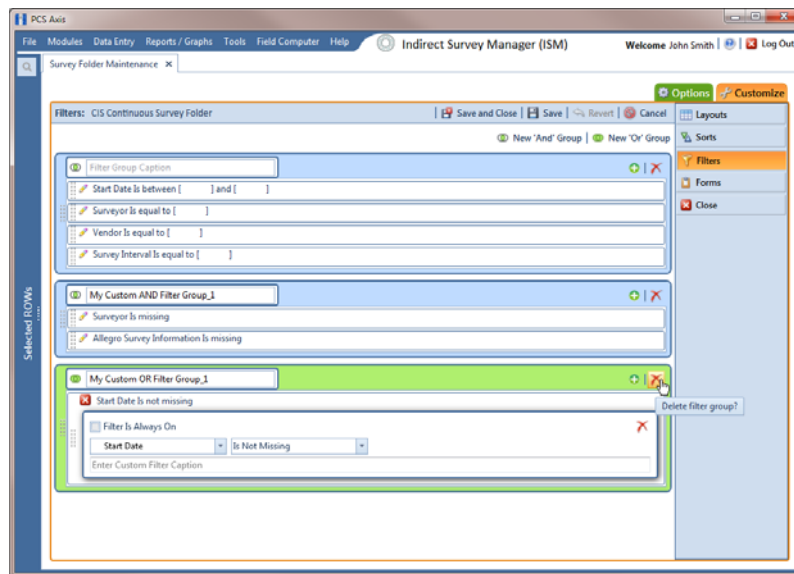

Figure 6-23. Filters
- 8 To delete a filter in a filter group, click the filter's  delete button (Figure 6-23). Then click  **OK** when the *Delete* message displays.
- 12 Click the  close button to close the filter's property settings group box (Figure 6-23, page 183).